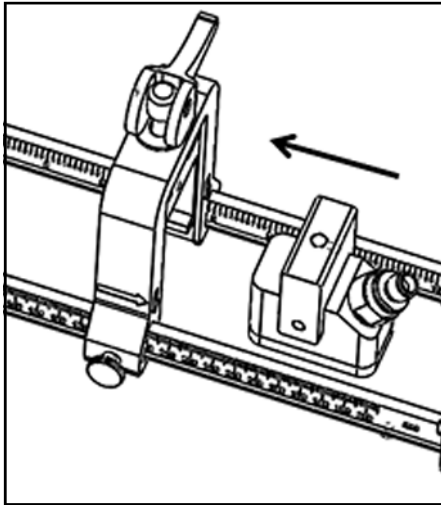

Figure 21: Inserting the Transducer
- Slide a transducer, which is already locked into its transducer holder, into one of the clamp-on fixture's clamp holders until the plunger from the top of the transducer holder snaps into its position on the bottom of the clamp holder (see Figure 21 below).